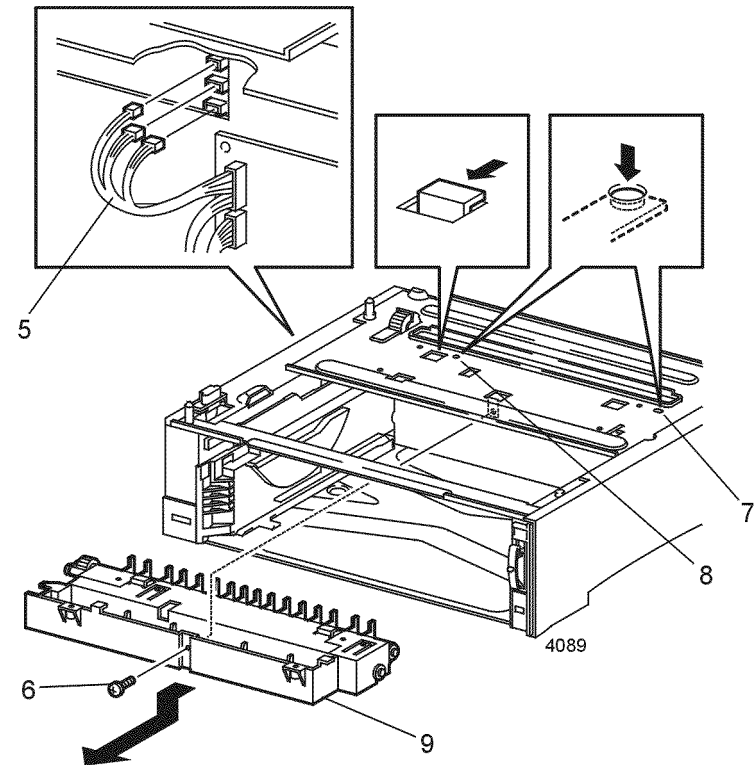

Figure 1 Feed Head Assembly
8. Push the left locking pin down and slide the left end of the Feed Head forward (Figure 1).
9. Slide the Feed Head forward and remove (Figure 1).